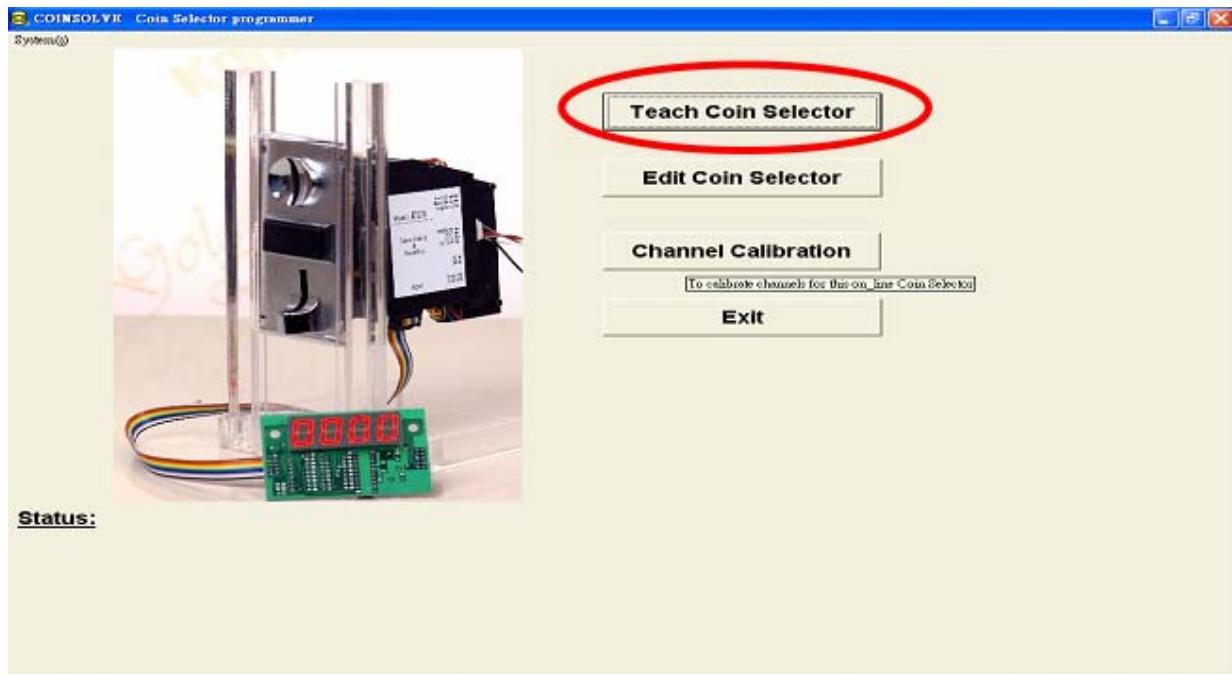
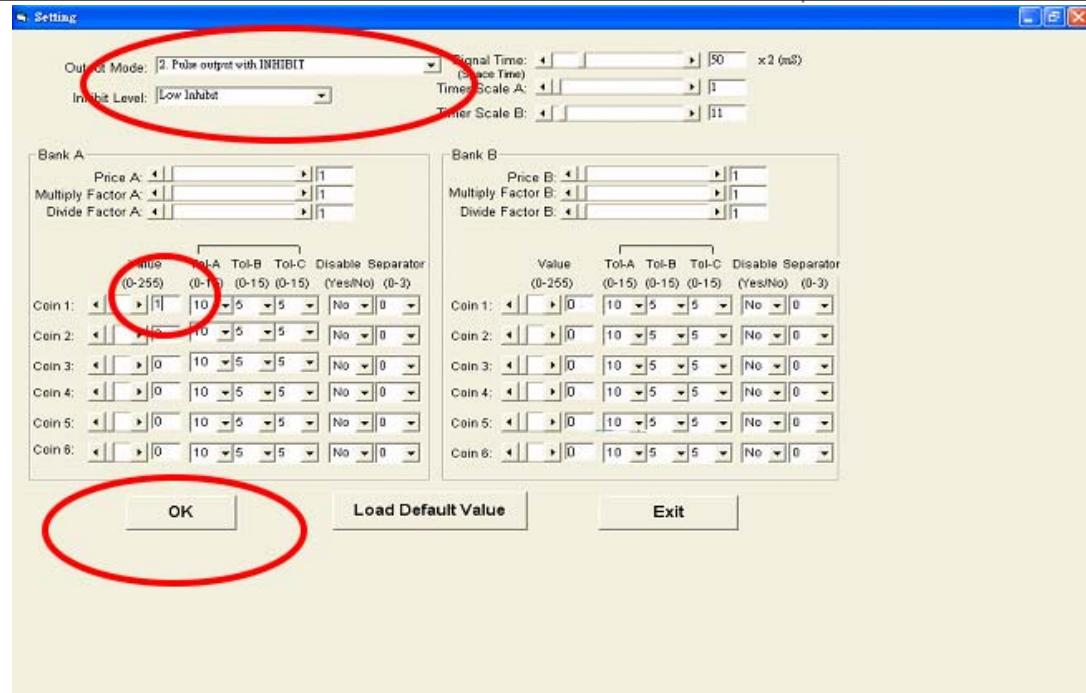

Fig. 4-7 Coin Training window
Fig. 4-8 Coin Training Setting
Step 2: System will click on “**Teach Coin Selector**” and System will set all parameter completion automatically. (Fig. 4-7 and Fig.4-8).